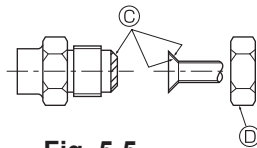

Fig. 5-5
Ⓐ (Fig. 5-5)
### 5.5. Connecting pipes (Fig. 5-4) (Fig. 5-5)
- The indoor parts of the drain pipe should be wrapped with polyethylene foam insulation materials (specific gravity of 0.03, thickness of 9 mm (3/8 inch) or more). [Fig. 5-5]